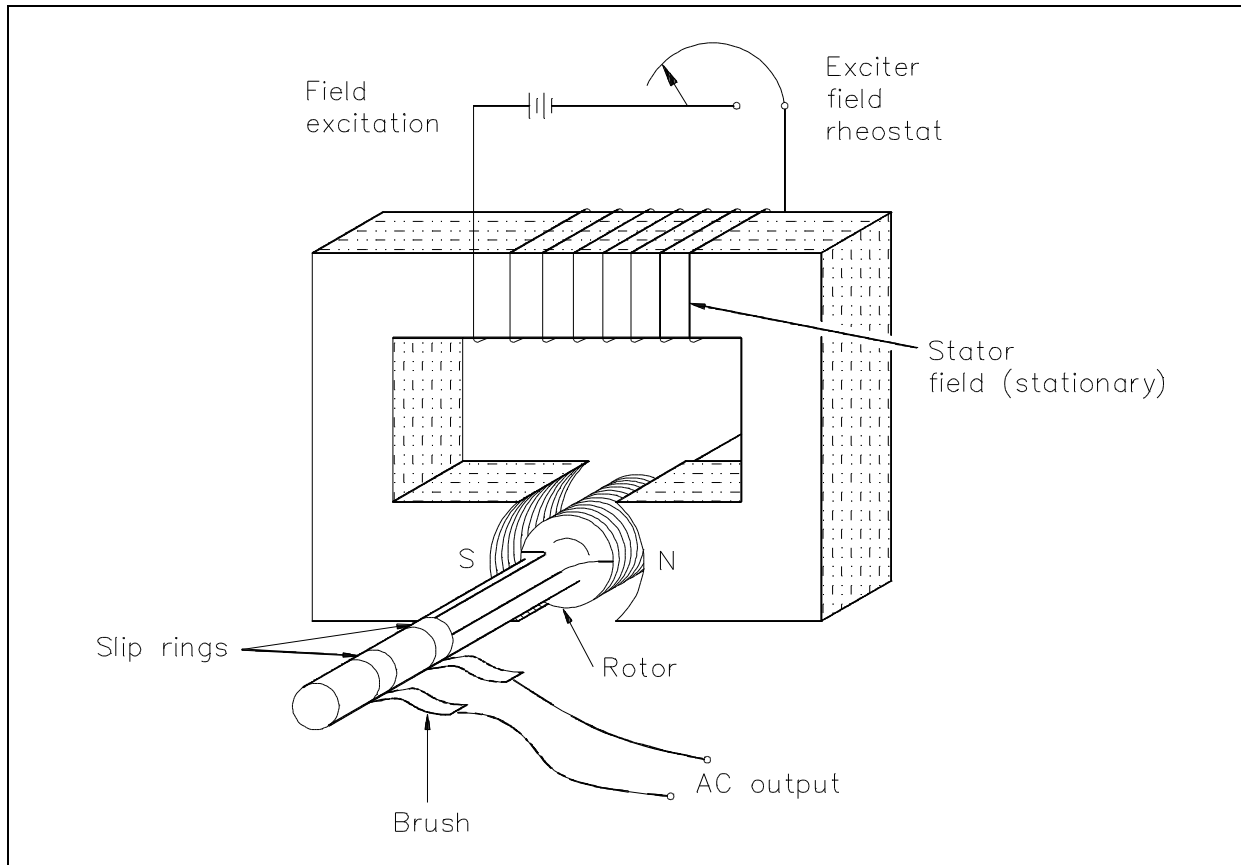

Figure 1 Basic AC Generator
The *rotor* of an AC generator is the rotating component of the generator, as shown in Figure 1. The rotor is driven by the generator's prime mover, which may be a steam turbine, gas turbine, or diesel engine. Depending on the type of generator, this component may be the armature or the field. The rotor will be the armature if the voltage output is generated there; the rotor will be the field if the field excitation is applied there.
The *stator* of an AC generator is the part that is stationary (refer to Figure 1). Like the rotor, this component may be the armature or the field, depending on the type of generator. The stator will be the armature if the voltage output is generated there; the stator will be the field if the field excitation is applied there.
*Slip rings* are electrical connections that are used to transfer power to and from the rotor of an AC generator (refer to Figure 1). The slip ring consists of a circular conducting material that is connected to the rotor windings and insulated from the shaft. Brushes ride on the slip ring as the rotor rotates. The electrical connection to the rotor is made by connections to the brushes.